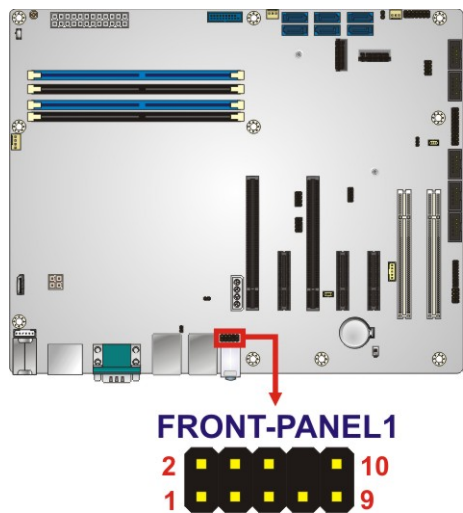

Figure 3-13: Front Panel Audio Connector Location
- CN Location: See Figure 3-13